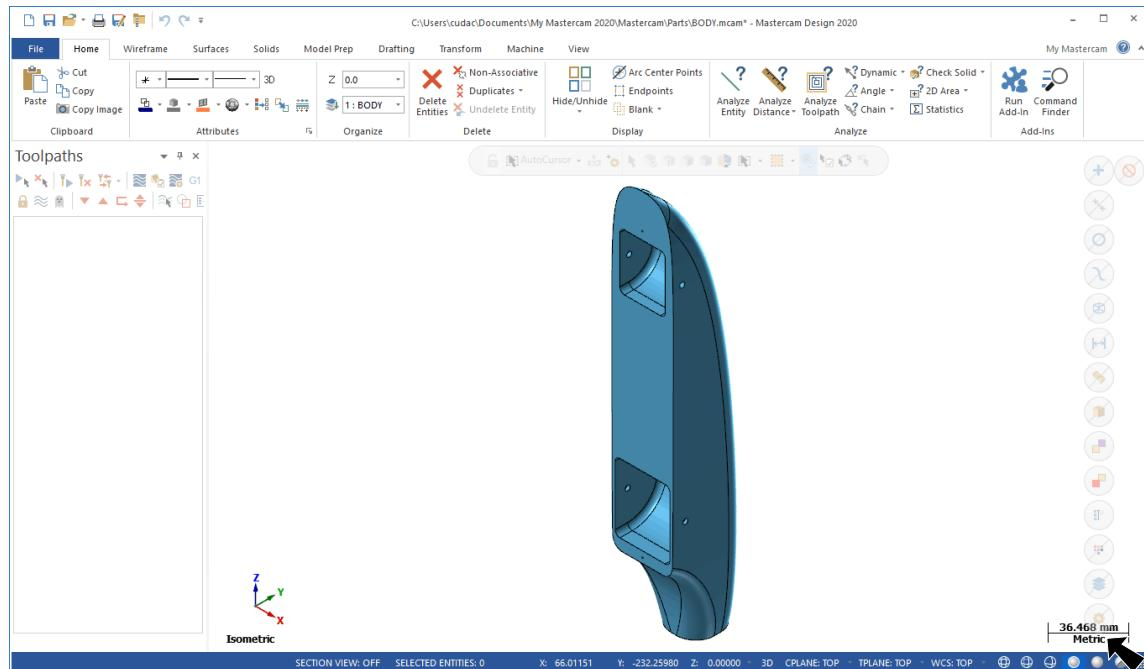

Fig. 2
Step 1. Confirm in the bottom right corner of the graphics area units are **Metric**, Fig. 2.